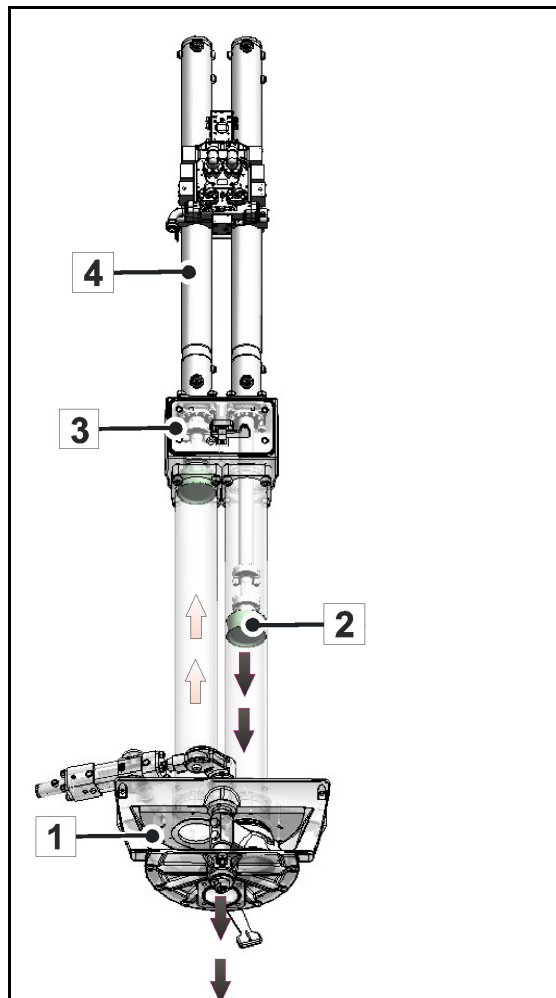

Fig. 3 Concrete pump
The most important assembly groups (Fig. 3 Concrete pump) include:
At the same time, the rock valve (1) (Fig. 3 Concrete pump) swivels so that the "drawing" cylinder is connected to the filling hopper and the "pushing" cylinder to the pumping line.
Caption (Fig. 3 Concrete pump)